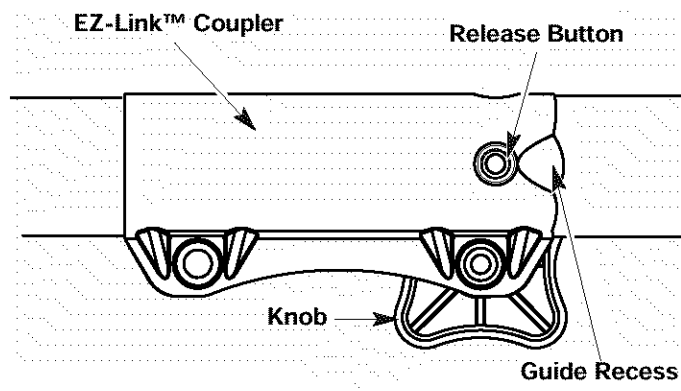

Fig. 24
1. Turn the knob counterclockwise to loosen (Fig. 24).
2. Press and hold the release button (Fig. 24).
1. Turn knob counterclockwise to loosen (Fig. 24).
NOTE: Aligning the release button with the guide recess will help installation (Fig. 24).